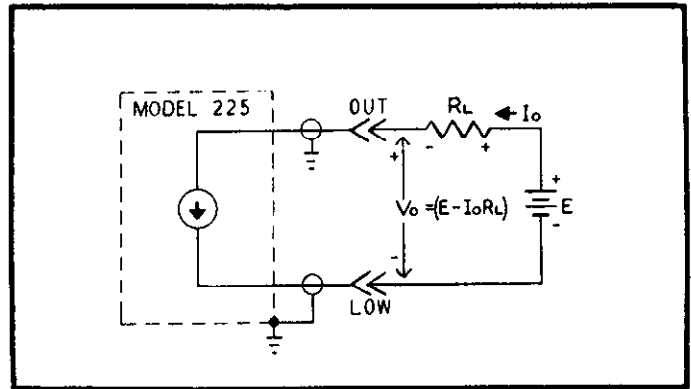

FIGURE 6. Current Sink.
2. Current Sink. The instrument can be used as a current sink as shown in Figure 6. In this case, the polarity of the current is such that current is flowing into the Model 225. The output voltage $V_0 = E - I_0 R_L$, where I_0 is selected by the front panel dials, E is the external voltage source, and R_L is the load resistance.